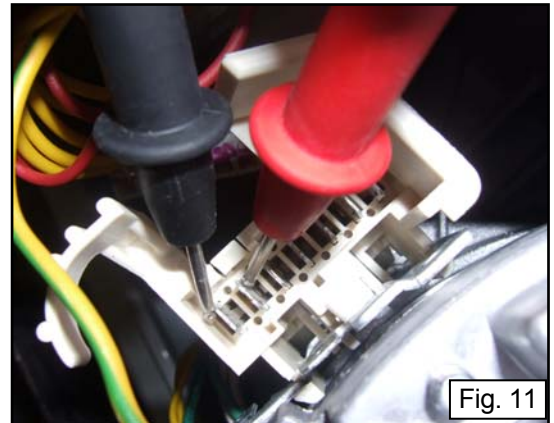

Fig. 11
- 4) Proceed by checking each individual winding according to the following table (fig. 11).